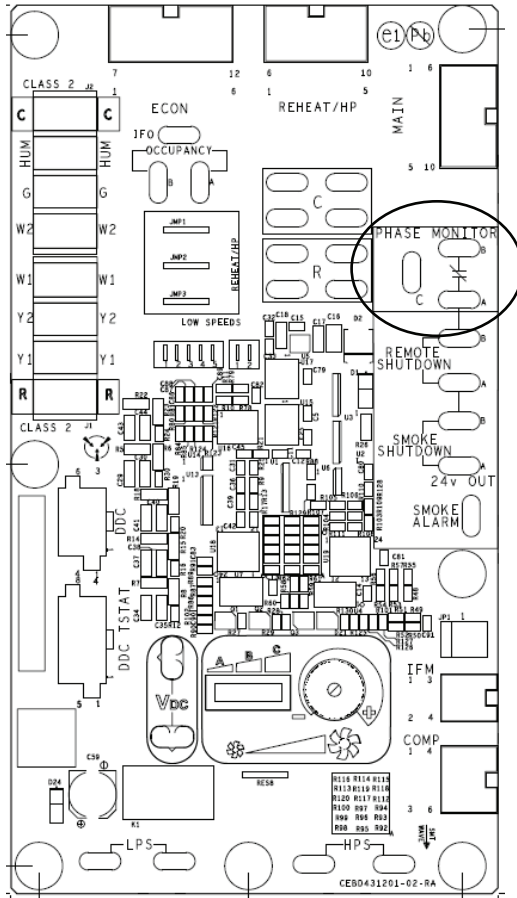
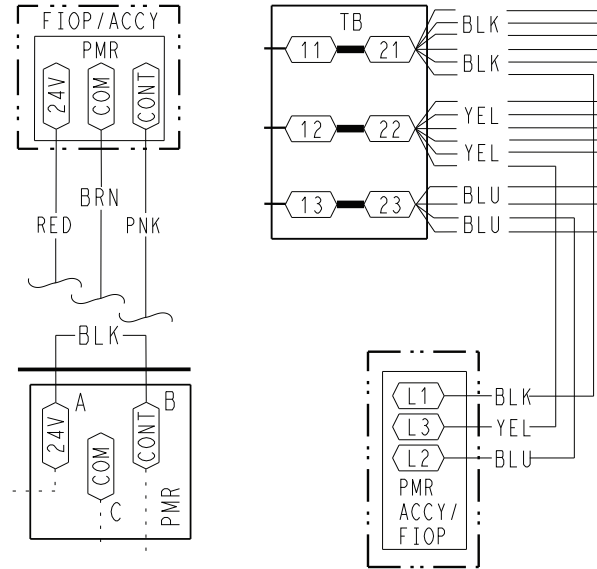

Fig. 4 — FC, GC, and JC without SystemVu Control Board (UCB)
Fig. 5 — FC, GC, and JC without SystemVu Wiring Diagram
- b. Harness Assembly 2: For FC, GC, and JC units without SystemVu[™], connect the female quick plugs to the phase monitor male quick connectors on the unit-mounted terminal board. See the applicable terminal board diagram (see Fig. 4) and wiring diagram (see Fig. 5).